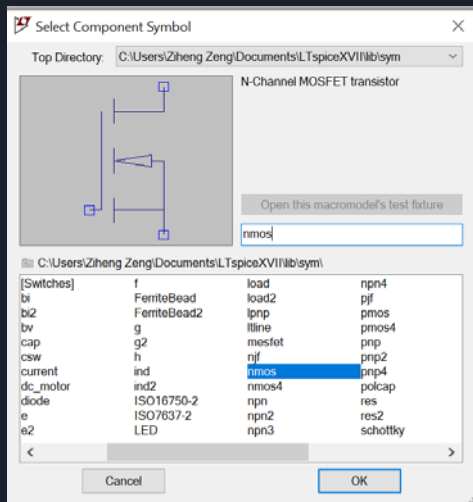

Figure 13.
- Click component symbol , and then search **nmos** in the search bar as shown in figure 13. Then, click 'OK'.